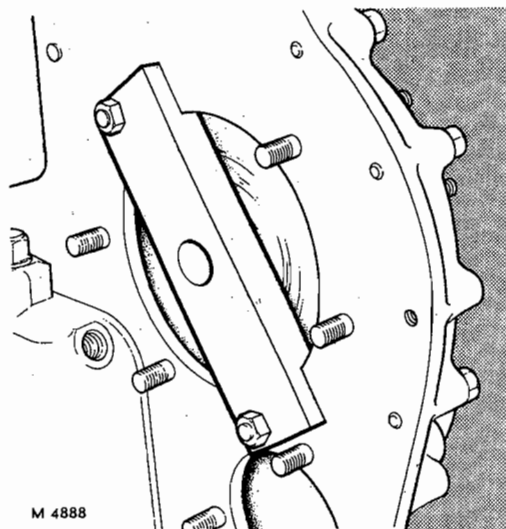

FIG. 5 CENTRALISING COMPRESSOR DRIVE GEAR
**Note:** To enable crankshaft to be turned tool LC 144 should be positioned and secured as shown in Fig. 5. This tool centralises the compressor drive gear and prevents jamming of gear train when crankshaft is rotated.